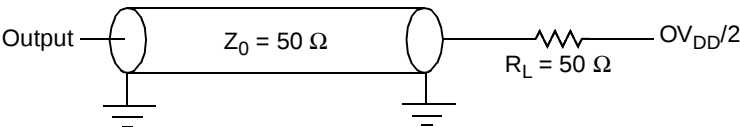

Figure 25. AC Test Load for the JTAG Interface
1. All outputs are measured from the midpoint voltage of the falling/rising edge of t_{TCLK} to the midpoint of the signal in question. The output timings are measured at the pins. All output timings assume a purely resistive 50 Ω load (see Figure 25). Time-of-flight delays must be added for trace lengths, vias, and connectors in the system.
2. The symbols for timing specifications follow the pattern of $t_{\text{(first two letters of functional block)(signal)(state)(reference)(state)}}$ for inputs and $t_{\text{(first two letters of functional block)(reference)(state)(signal)(state)}}$ for outputs. For example, t_{JTDVXH} symbolizes JTAG device timing (JT) with respect to the time data input signals (D) reaching the valid state (V) relative to the t_{JTG} clock reference (K) going to the high (H) state or setup time. Also, t_{JTDVXH} symbolizes JTAG timing (JT) with respect to the time data input signals (D) went invalid (X) relative to the t_{JTG} clock reference (K) going to the high (H) state. In general, the clock reference symbol is based on three letters representing the clock of a particular function. For rise and fall times, the latter convention is used with the appropriate letter: R (rise) or F (fall).
Figure 25 provides the AC test load for TDO and the boundary-scan outputs of the MPC8349E.